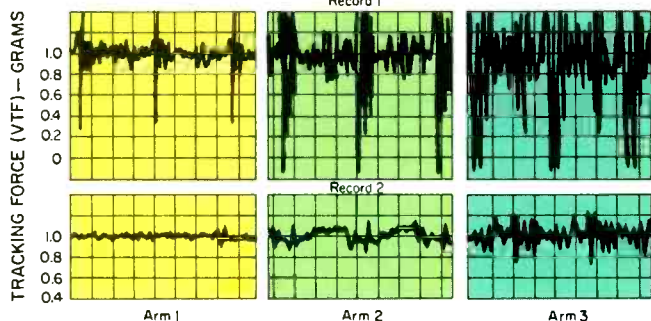

Fig. 4—Changes in vertical tracking force with changes in tonearm mass and with warped and flat records; see text.
Such a measurement was made a few years ago by Poul Ladegaard at Bruel & Kjaer, and Fig. 4 shows the result (reproduced from Ref. 3). The initial tracking force was set to 10 mN (1.0 gram), and portions of two records were played with the same cartridge mounted in three different tonearms. Each oscillogram in Fig. 4 shows the variation in effective tracking force during four seconds of music (two revolutions of the record).
3. As the cartridge shakes, its tracking force is modulated up and down—the stylus alternately digging in with too much force (creating the possibility of accelerated record wear) and nearly floating free with insufficient force for undistorted tracking of the groove. This is clearly seen in the upper row of Fig. 4; there are moments when the effective tracking force falls to zero, meaning that the stylus has completely lost contact with the groove. Of course, when the stylus is tracing heavily modulated grooves, a reduction of even 20% in effective tracking force may be enough to cause increased distortion and mistracking.
The answer is that the three tonearms had differing values of effective mass, arm 1 being the lightest. Record 1 (the upper row of three oscillograms) had a medium-sized warp, while record 2 appeared flat to the eye. What Fig. 4 shows is that under real-world operating conditions, with arms of typical mass and records of typical warp content, the effective tracking force is continually varying—and by much more than a few hundredths of a gram
The other approach is to keep the frequency of the arm/cartridge resonance above 8 Hz or so, where there will be fewer perturbations to stimulate it. In principle, this could be accomplished by lowering the cartridge's compliance, but the low-frequency tracking ability of any cartridge is proportional to its compliance, so a relatively high compliance is mandatory. Therefore, the only way to raise the resonant frequency is to reduce the effective mass of the cartridge and arm. Figure 4 testifies to the effectiveness of this approach: The oscillograms for arm 1, the low-mass arm, show virtually no variation in cantilever deflection on the flat record (lower